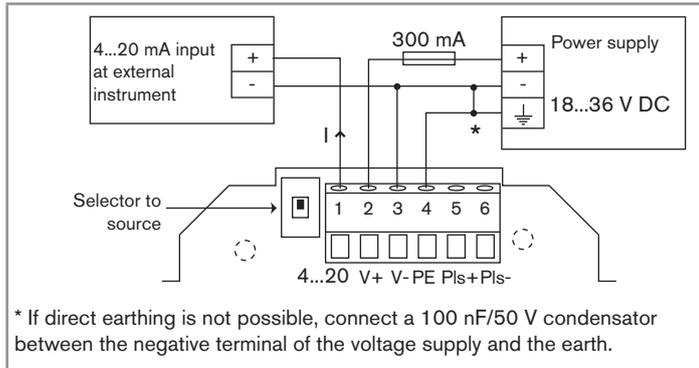
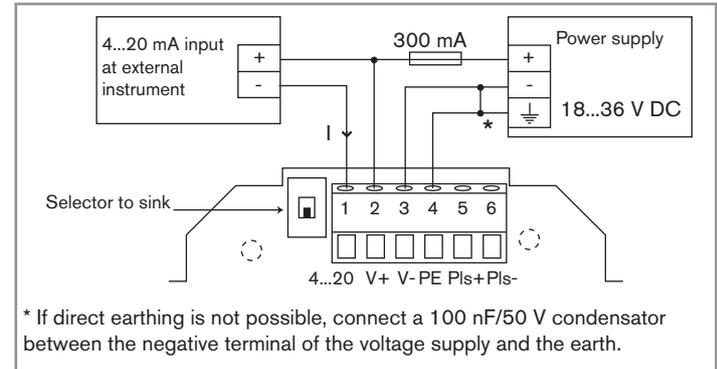

Fig. 17 : Connection of the current output in sourcing mode
Fig. 18 : Connection of the current output in sinking mode
- Set the selector of the electronic board to the sourcing or the sinking position (see Fig. 17 or Fig. 18).
- Connect the 4...20 mA output in sourcing mode (see Fig. 17) or in sinking mode (see Fig. 18).
- Earth the device (see Fig. 17 or Fig. 18).